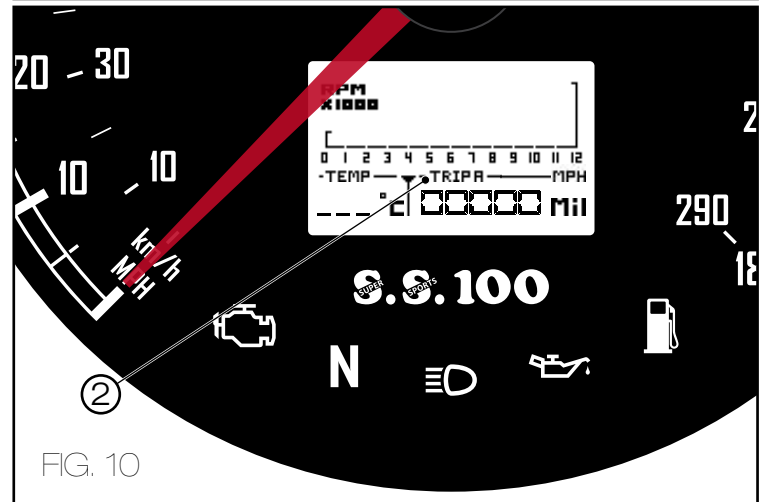

FIG. 10
This function indicates the distance travelled in a day (in km or miles depending on the application selected) by simply pressing button (1) to display consecutively trip A and trip B (2 Fig. 10). To return to zero hold down button (1). If the number exceeds 9999.9 the distance travelled sets back to zero and the counter automatically restarts.